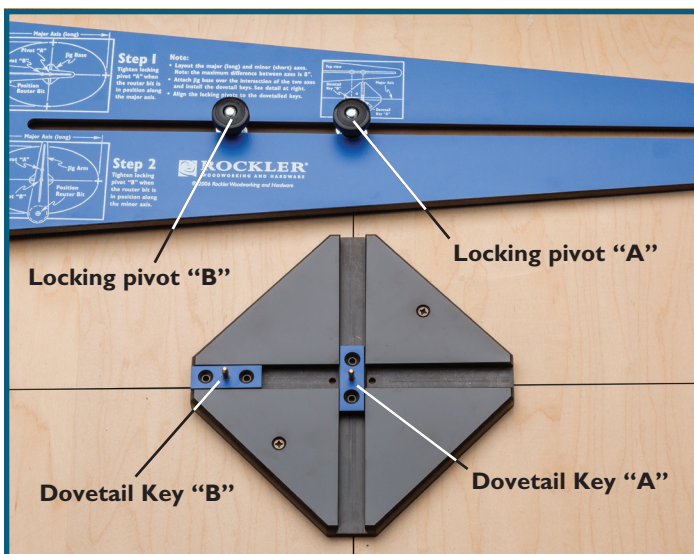

Fig. 3
3. Insert a Dovetailed Key (3) into each channel in the Jig Base (2). Center one (hereafter referred to as "Dovetail Key A") along the minor axis.
4. Loosen the two Locking Pivots on the Jig Arm (1) and position them so they mount on the pins in the Dovetailed Keys (3). **Fig. 3.**